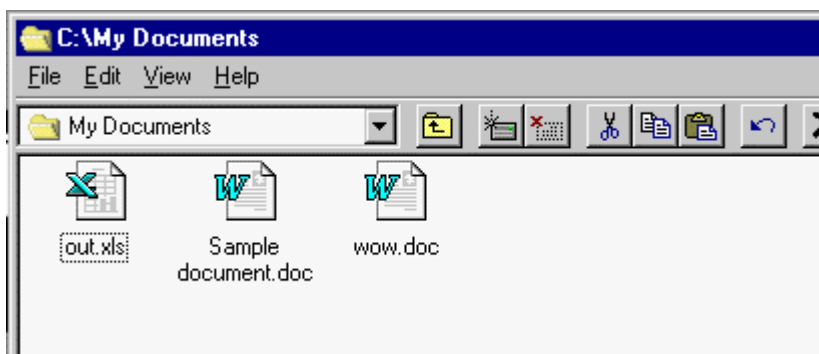

Figure 12 Retrieving an Existing Document
- If the document was saved in the **My Documents** folder (the default for Windows 98), then from the Desktop, double-click on the **My Documents** folder to open a window similar to that in Figure 12.